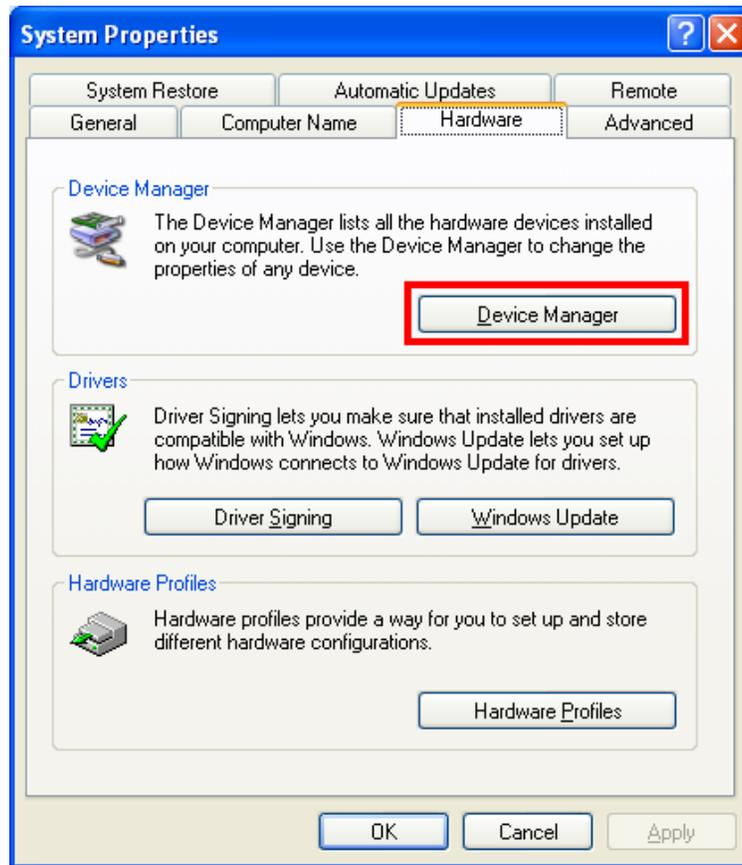

Figure 6-3: Click the Device Manager Tab
Step 3: Click the **Device Manager** tab (Figure 6-3).